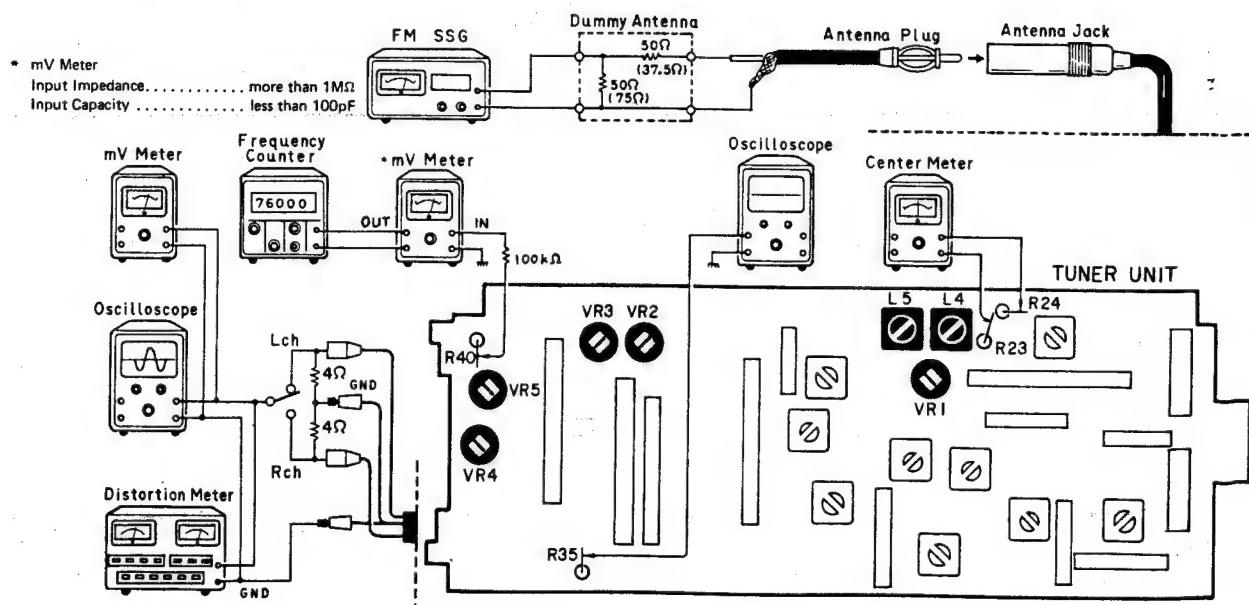

Fig. 19
- Connection Diagram (Shown in Fig. 19)